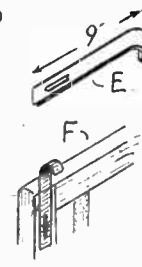

Fig. 4—Metal hangers
To support the bed rest, a pair of metal fitments will be needed. These can be bent up from  $\frac{1}{4}$ in. by  $\frac{3}{4}$ in. metal bar to the shape seen at (E) in Fig. 4. Allowing a little extra for the bend at the top, a total length of 11ins. for each will be about enough. The curved top parts should fit over the head of the bed, as seen in the general view of the completed article.